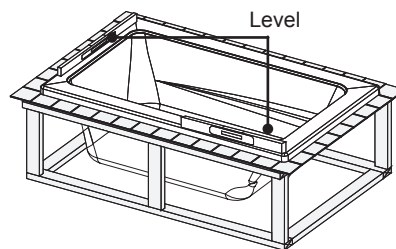

Fig. 6
- The bathtub must be set level. To check, use a level on top of the ledges on both ends of tub and on top of threshold (Figure 6).